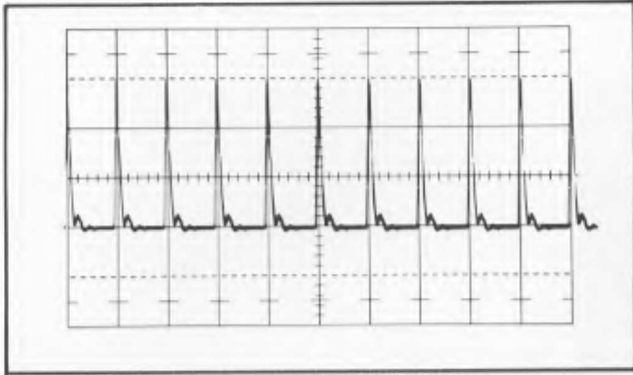

Fig. 6-16. Typical TRIGGER OUTPUT display. Volts/cm .2.
- d. Check the amplitude of trigger signals. Fig. 6-16.